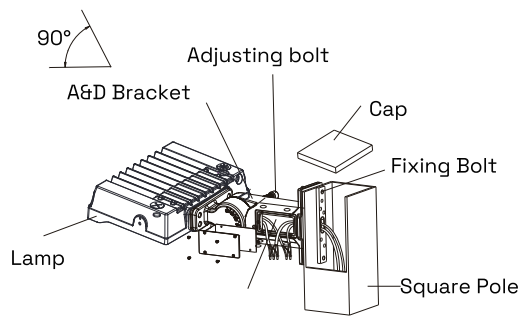

Fig 4.4
Step 2: Fix A&D bracket to square pole with bolt, open the cover of A&D bracket junction box Figure 4.4